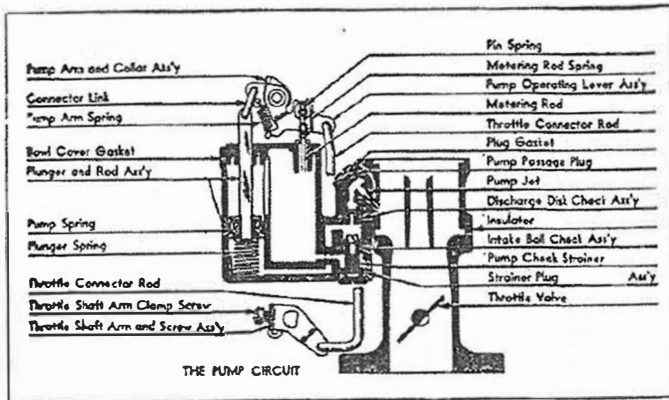

Fig. 4
D. Group all pump circuit parts. (Fig. 4.)